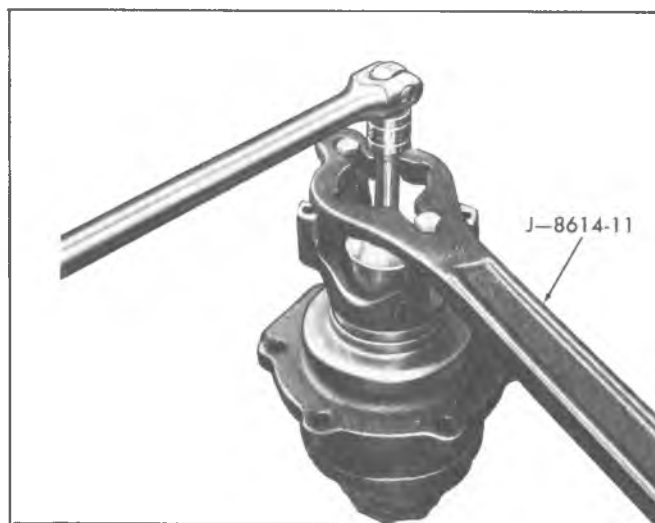

Fig. 8E—Removing Pinion Nut
2. Install Holder J-8614-11 on flange by using two bolts with flat washers, as shown in figure 8E. Position J-8614-11 on flange so that the four notches are toward the flange.
9. Clamp the pinion flange into a vise. Install J-8614-11 as in figure 8E. Tighten the nut to achieve proper bearing preload.